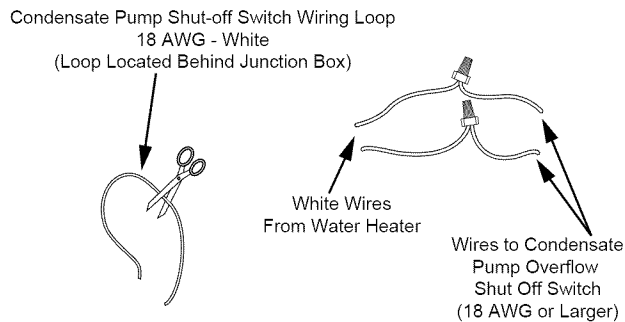

FIGURE 15.
2. Locate the white 18 AWG wire loop behind the field wiring junction box. See Figure 15.
3. Cut the loop and strip insulation off of the two ends. See Figure 15.
4. Measure the distance from the field wiring junction box to the condensate pump, and cut two 18 AWG or larger wires to correct length and strip the insulation at both ends of each wire. See Figure 15.